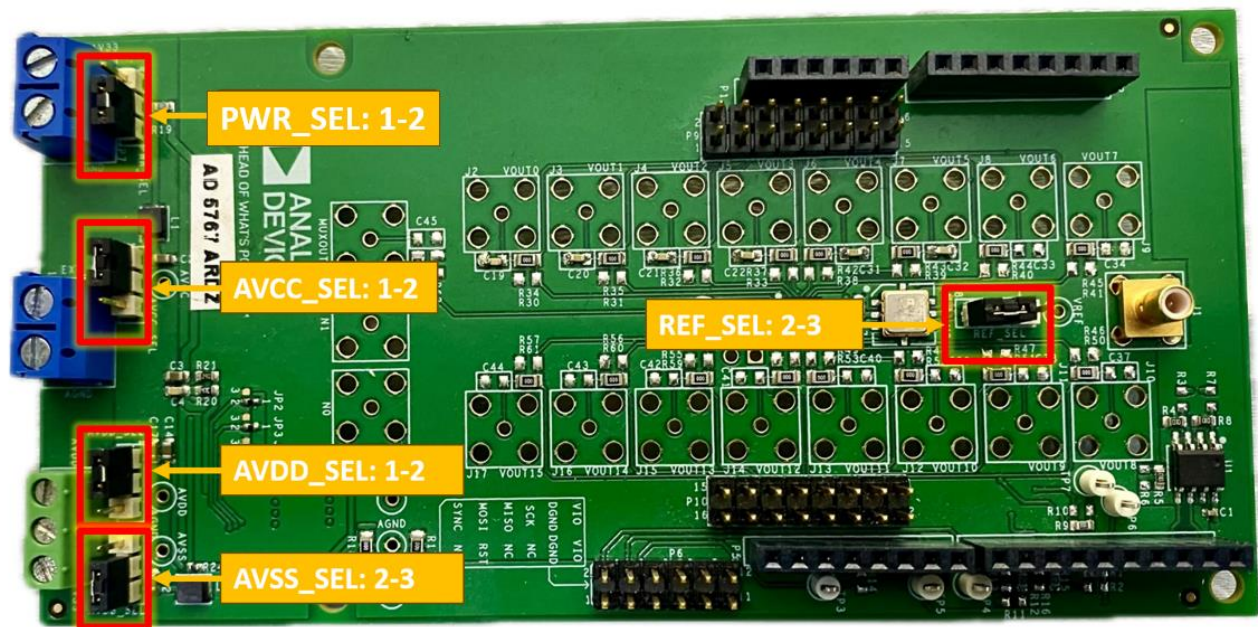

Figure 9 Link or Jumper Connections Location and Settings
- Set the link connections as shown in Figure 9: